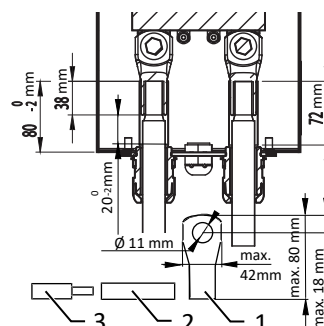

Fig. 29: Configuring the DC cable
- ⌚ **WARNING! Risk of short circuit due to incorrect size of the cable lug! Observe the dimensions for the selection.** [See figure 29: Configuring the DC cable ▶ Page 30]